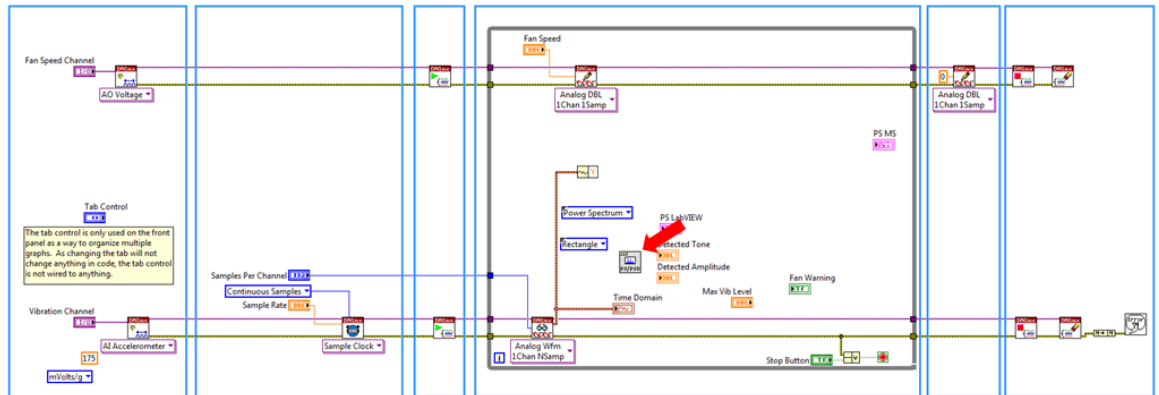

Figure 32. The FFT Power spectrum will calculate the frequency spectrum during the acquisition.
3. Place the FFT Power Spectrum VI in the position shown in Figure 32